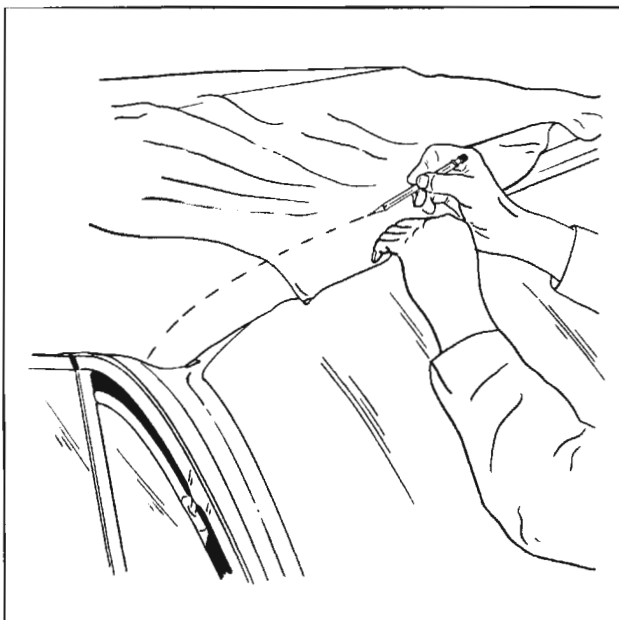

Fig. 16-134 Marking Top Material at Front Roof Rail
49. At front roof rail, pull top trim material forward to desired tension. While maintaining tension on top trim, place a pencil mark on outer surface of trim material along forward edge of front roof rail. (Fig. 16-134)